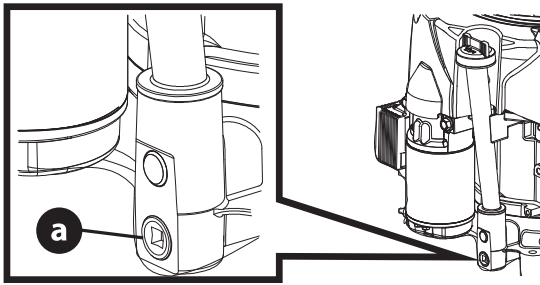

Figure 6
2. Remove drain plug (a) and allow oil to drain into a suitable container (Figure 6).